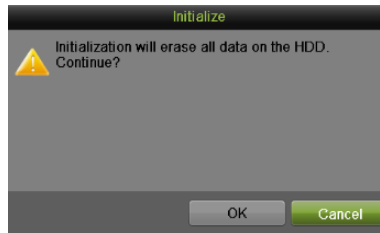

Figure 193 Disk Format Confirmation
4. A confirmation message, similar to the one shown in **Figure 193** will appear on the screen. Click OK to continue formatting process.